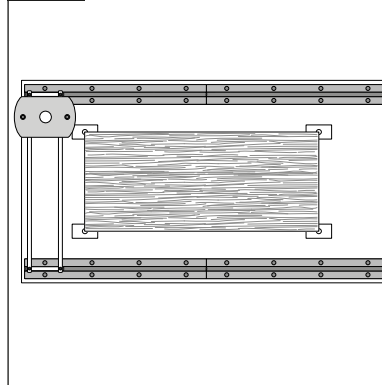

Fig. 10
- Set depth of cut to 1.5mm maximum and router speed. – (Fig. 10)